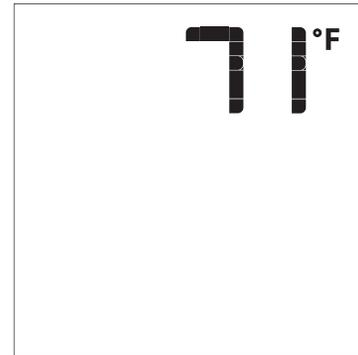

Figure 74
4. With the system ON, press the ON/OFF Key on the Transmitter. The Transmitter LCD display will show the room temperature. **See Figure 74.** At the same time the Receiver will turn off the appliance.